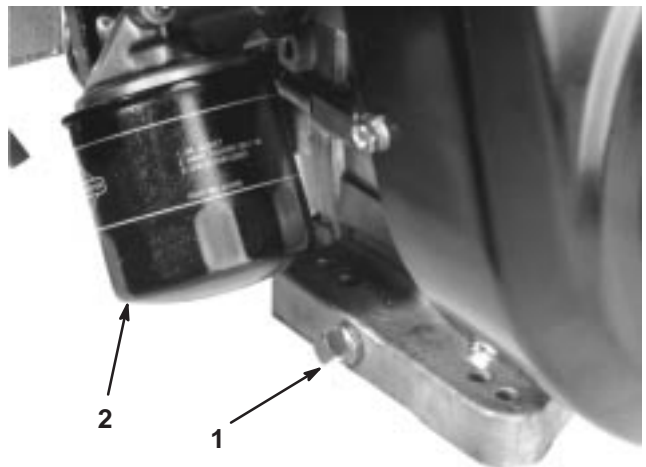

Figure 42
1. Remove the drain plug (Fig. 42) and let oil flow into a drain pan. When the oil stops, install the drain plug.
2. Remove the oil filter (Fig. 42). Apply a light coat of clean oil to the new filter gasket.